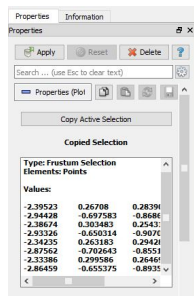

Figure 8: Apply the Plot
Step 7 Apply the Plot.(Figure.8)